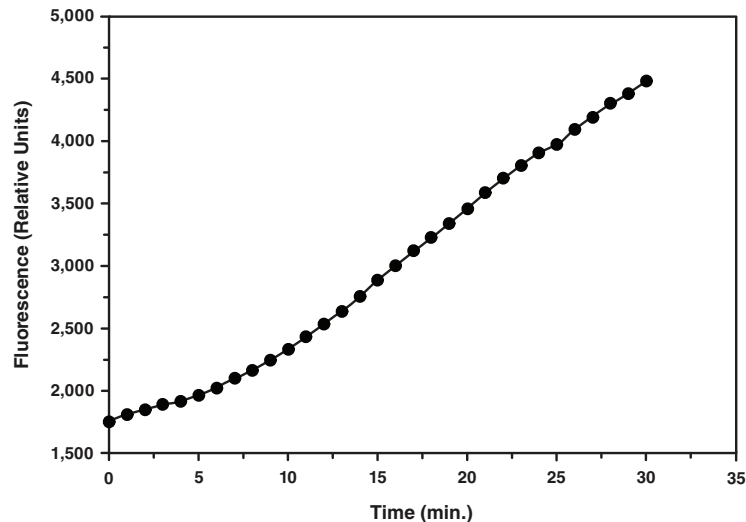

Figure 4. PLD Positive Control over time
- a. Plot the fluorescence values as a function of time (in minutes) to obtain the slope (rate) of the linear portion of the curve. An example of the PLD Positive Control over time is shown in Figure 4 on page 17.